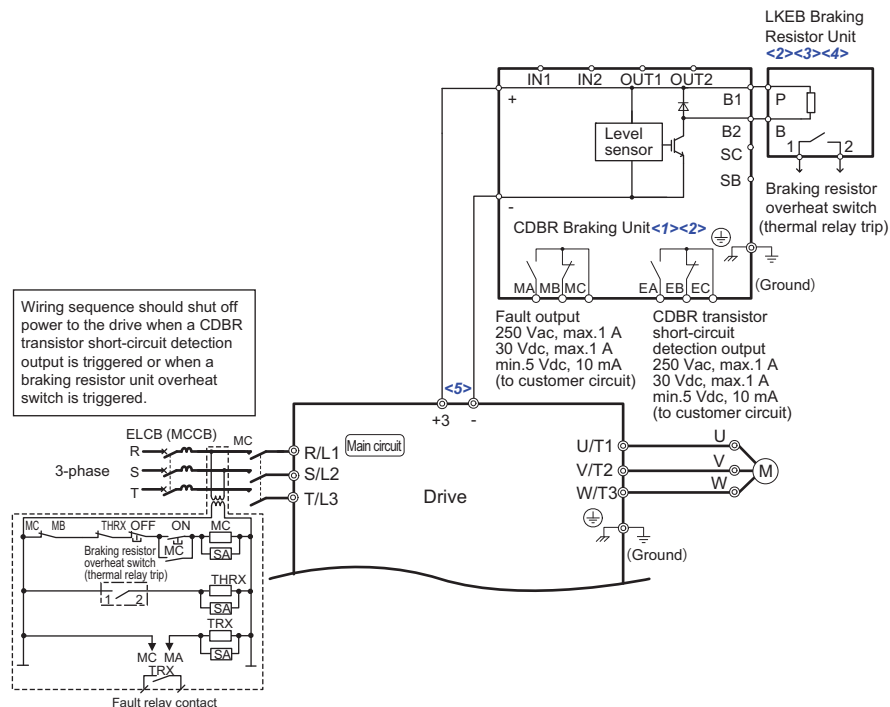

Figure 20 Connection Diagram
1. For all CDBR wiring, refer to Table 10 for wire gauge and torque specifications and refer to Figure 20 for the drive and option connection diagram